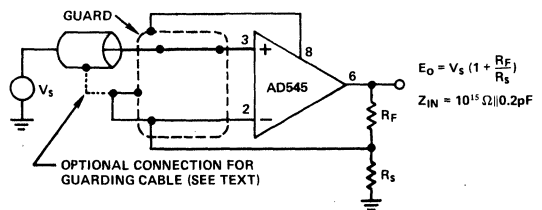

Figure 2. Very High Impedance Non-Inverting Amplifier
2. The use of guarding techniques is essential to realizing the capability of the low input bias currents of the AD545. Guarding is achieved by applying a low impedance bootstrap potential to the outside of the insulation material surrounding the high impedance signal line. This bootstrap potential is held at the same level as that of the high impedance line; therefore, there is no voltage drop across the insulation, and hence, no leakage. The guard will also act as a shield to reduce noise pickup and serves the additional function of reducing the effective capacitance to the input line. The case of the AD545 is brought out separately to pin 8 so that it can also be connected to the guard potential. This technique virtually eliminates potential leakage paths across the package insulation, provides a noise shield for the sensitive circuitry, and reduces common-mode input capacitance to about 0.2pF. Figure 10 shows a proper printed circuit board layout for input guarding and connecting the case guard. Figures 2 and 3 show guarding connections for typical inverting and non-inverting applications. If pin 8 is not used for guarding, it should be connected to ground or a power supply to reduce noise.